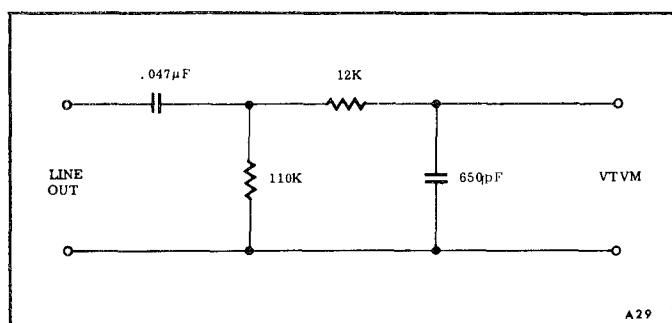

Figure 4-6. Bandpass Filter Schematic
5. Bandpass Filter (see Figure 4-6)
4.54 This check requires the use of an output bandpass filter (Figure 4-6).